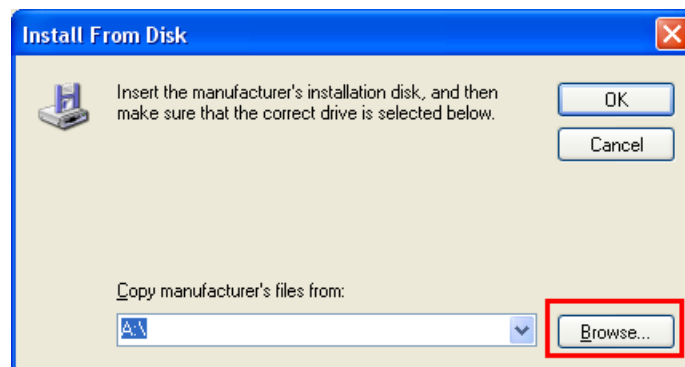

Fig. 1-11 Select the target file of driver
- 5) Wait for several seconds, and a dialog box named “Install From Disk” will pop up, see Fig. 1-11. Click [Browse...] button to open the target file of driver.